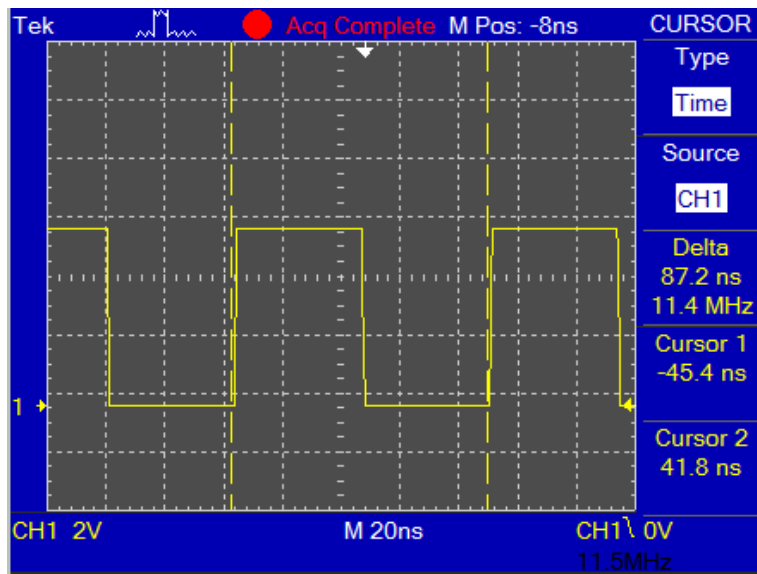
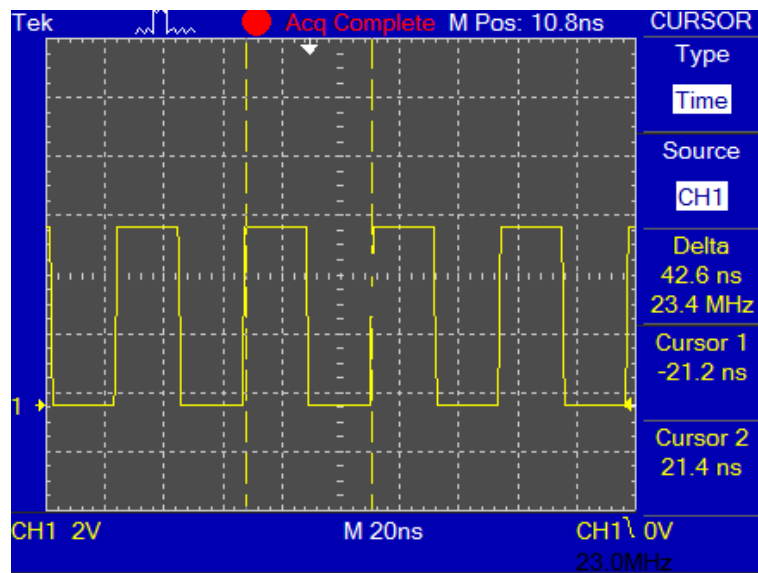

Figure 27: Crystal removed, Frequency = 11.4Mhz
Figure 28: Crystal and Cap removed, Frequency = 23.4MHZ
10. In procedure 10, we are tasked with measuring the circuit with the crystal removed (Figure 27) and when the crystal and capacitors are removed (Figure 28). The crystal seems to hone in on the exact frequency that we expect from this type of circuit and “smooths” it out. When it is removed, we see the frequency is slightly slower. When we remove both the crystal and capacitors, we see the frequency almost double. The crystal seems to filter out the frequencies we don't want, and that is based on the 1.5k resistor and 30pF capacitor.